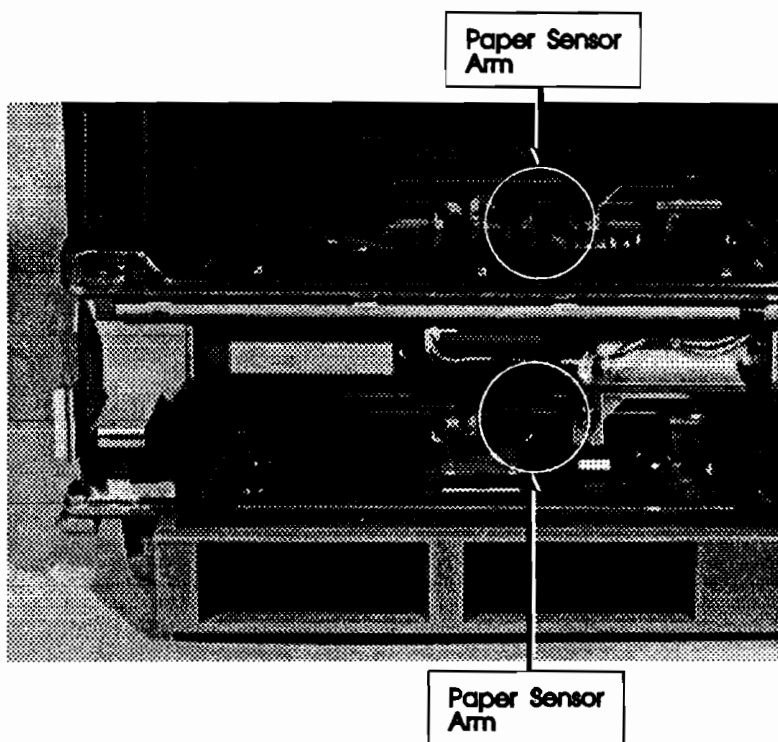

Figure 7-5. Paper Sensing Arm
4. Is either Paper Sensing Arm broken? (See Figure 7-5)	Inspect the arms for damage; if broken, replace the arm.
3. With the other hand, PUSH on the left-most paper tray identifier switch SW203 (lower tray) or SW263 (upper tray), being careful not to push the Sensing Arm flag at this time. (See Figure 7-5.) If the printer does not return to the READY state at this point: